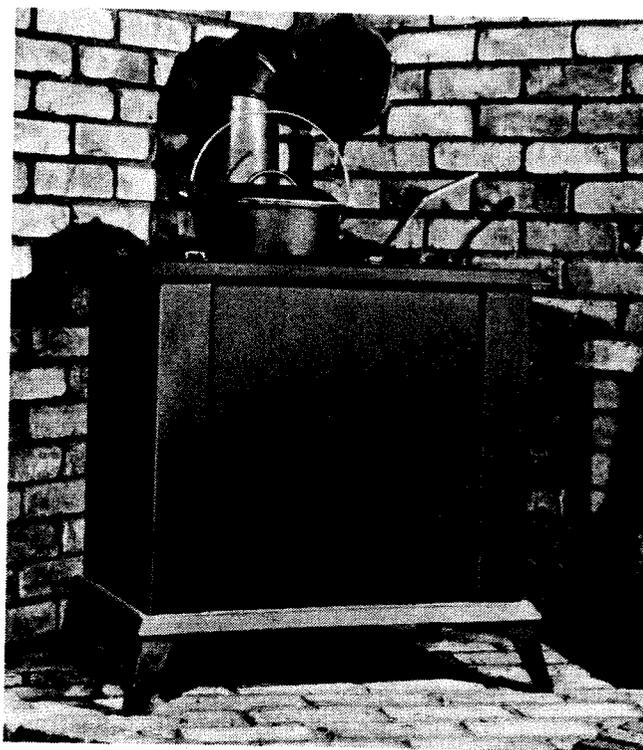

Fig. 74. Tempwood downdraft box stove.
20. **Mohawk Industries Inc.** (manufacturer), 173 Howland Ave., Adams, MA 01220. The Tempwood (Fig. 74 and Table 9) is a true downdraft box stove. Air enters at the top of the stove, aids in combustion, then is forced back over the flames by more incoming air